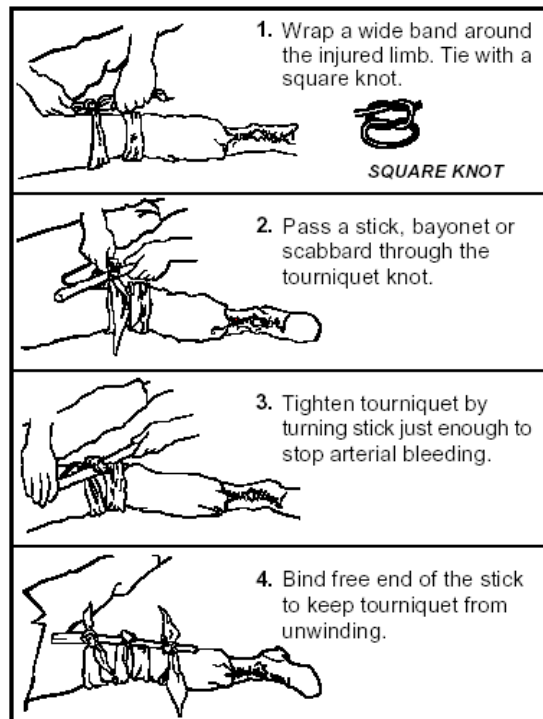

Figure 16-3. Application of a tourniquet.
- Apply tourniquet (TK) band just above bleeding site on limb. A band at least 3 inches (7.5 cm) or wider is best.
- Follow steps illustrated in Figure 16-3.